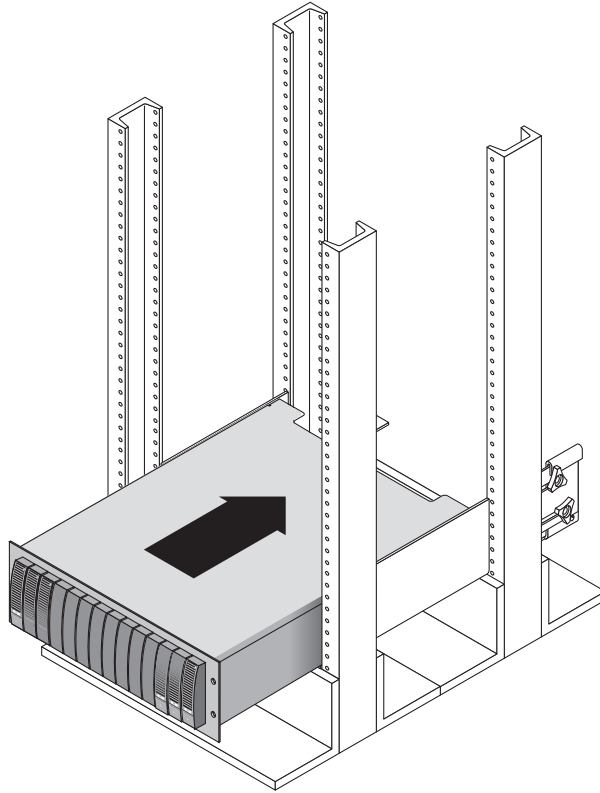

FIGURE 2-33 Sliding the Tray Into the Rack
3. Carefully slide the tray onto the mounting rails until the front bezel of the tray contacts the rail flange on each side (FIGURE 2-33).